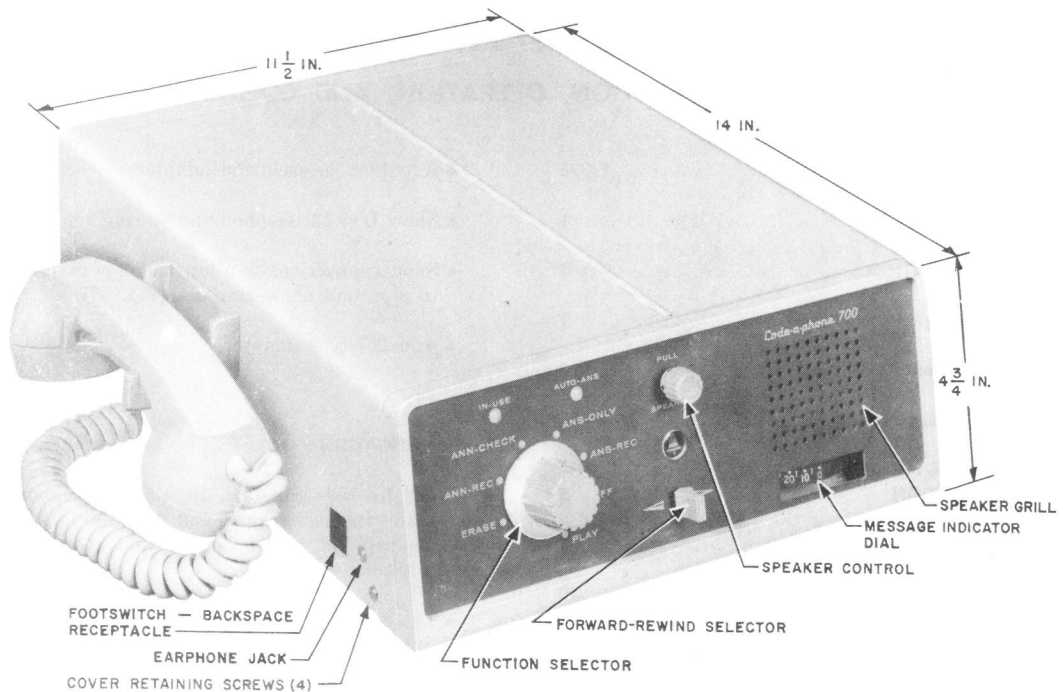
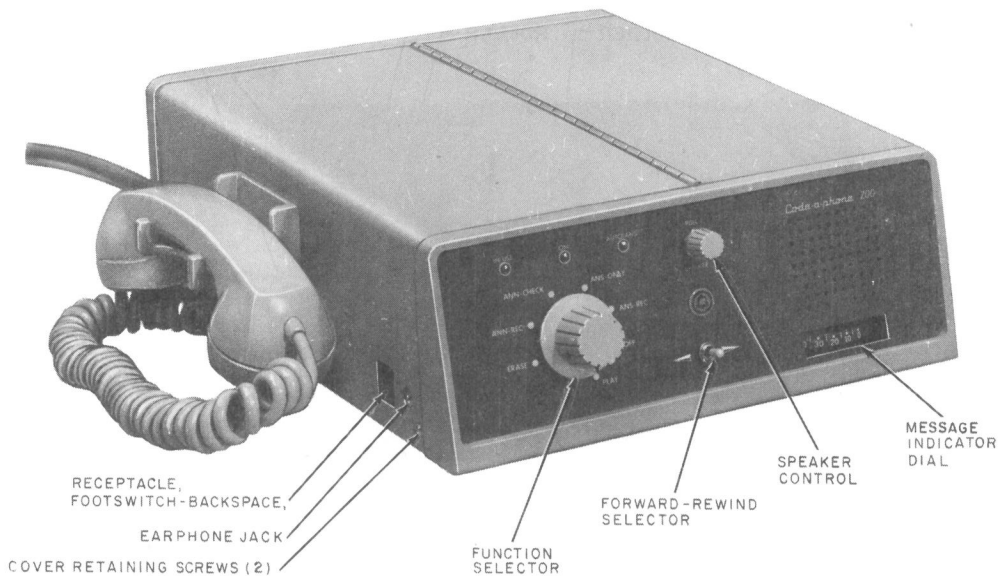

Fig. 1—KS-19245, List 1 (MD) Telephone Answering Set
Fig. 2—KS-19245, List 13 (MD) and List 24 Telephone Answering Set
1.01 This section contains information on the KS-19245, List 1 (MD) (Fig. 1), List 13 (MD), and List 24 (Fig. 2) telephone answering set.
2.01 The KS-19245, Lists 1, 13, and 24 telephone answering sets (Fig. 1 and 2) are automatic answering sets for either answer and record, or answer only service.
- Housed in a metal case. The cover has a light olive gray textured finish and the front panel has a blue-gray enamel finish. Dimensions of the Lists 1, 13, and 24 sets are shown on Fig. 1. Weight of List 1 set is 31 pounds and Lists 13 and 24 sets is 24 pounds.